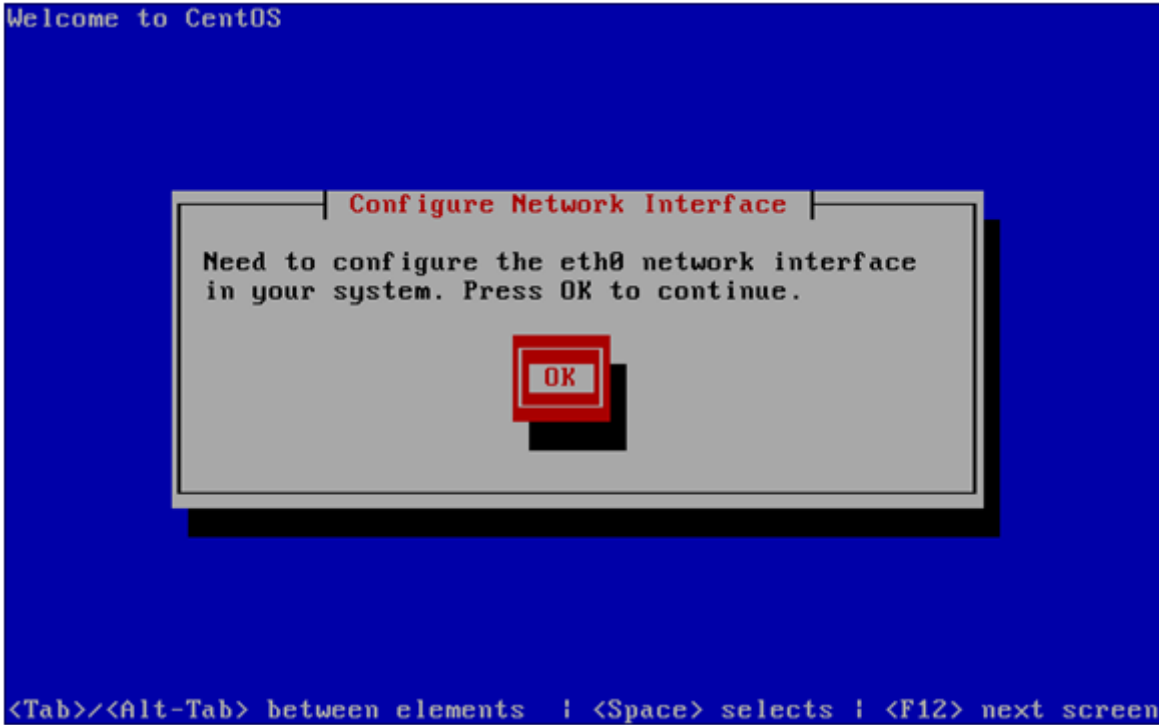

Figure 10: network parameters configuration request.
7. Keep waiting till following screen appears and press Ok (Figure 10)